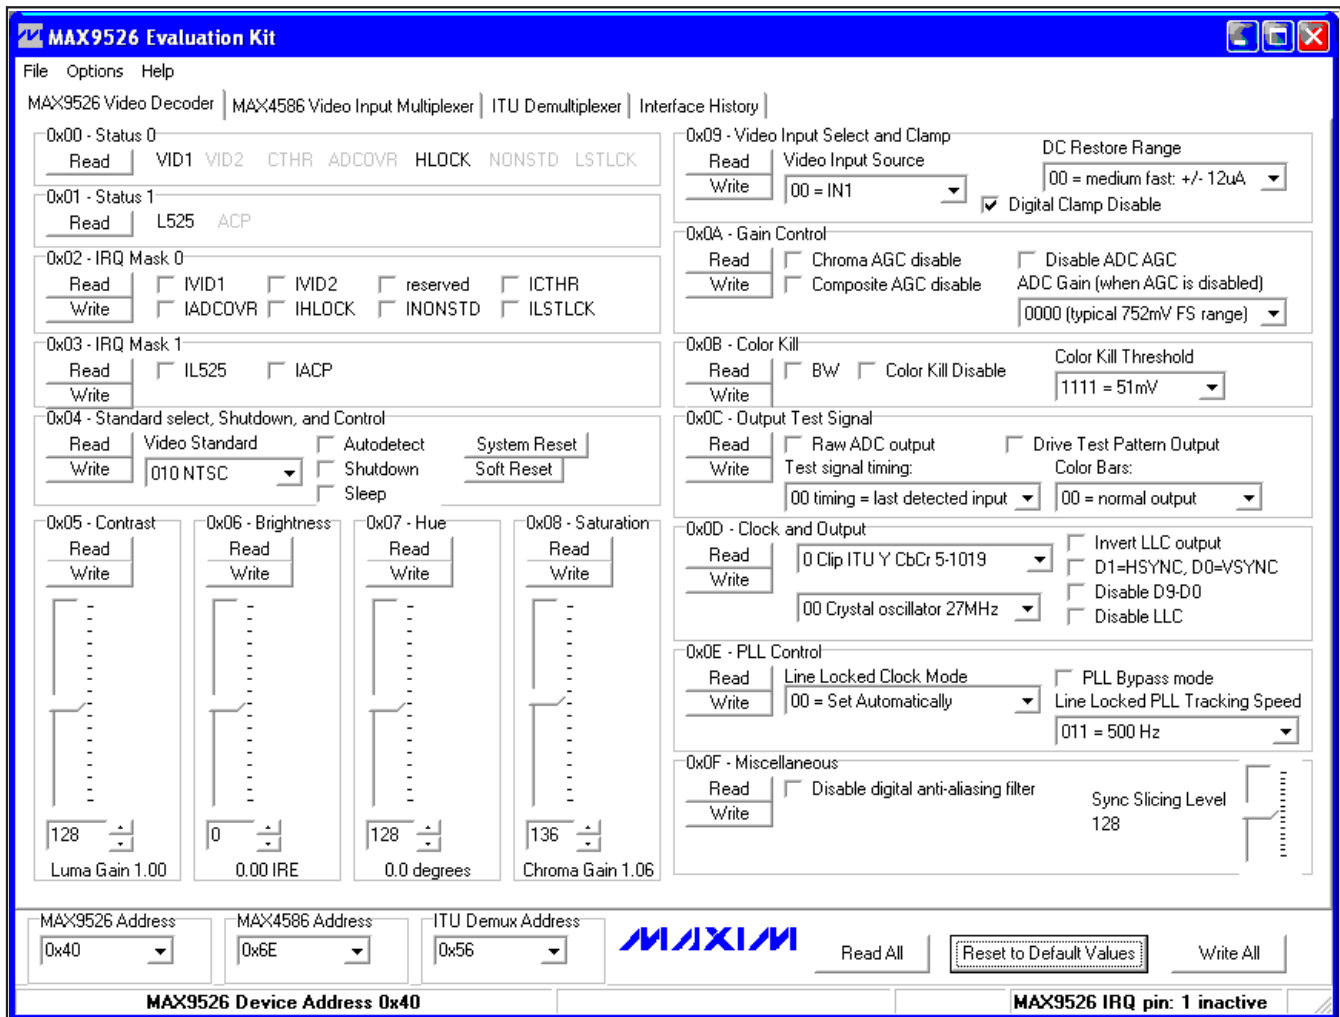

Figure 1. MAX9526 EV Kit Software Main Window
- 12) Start the MAX9526 EV kit software by opening its icon in the **Start | Programs** menu, then press the **Reset to Default Values** button. The EV kit software main window appears, as shown in Figure 1.
Drop-down lists select the I²C device address for MAX9526, MAX4586, and ADV7176A. The **ITU Demux Address** drop-down list includes both ADV7175A and ADV7176A device addresses. Each of these address selection drop-down lists include an option to search known addresses for each corresponding device (see Figure 1).